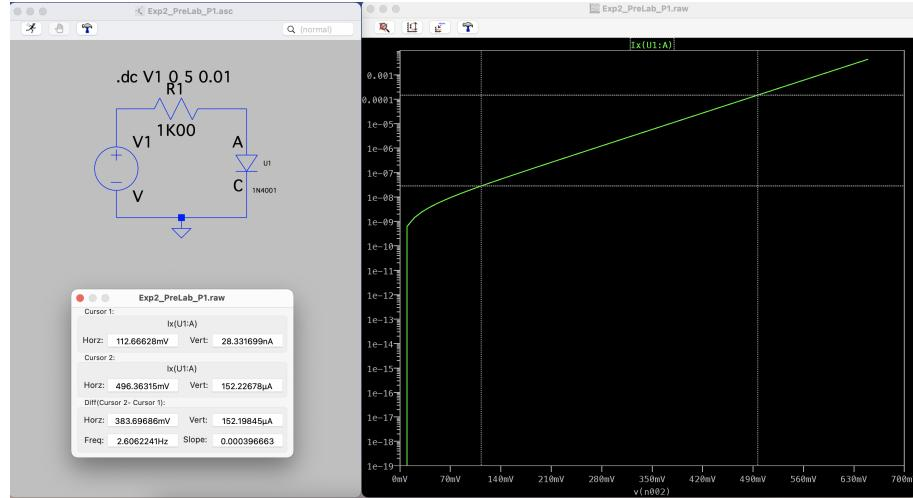

Figure 2: The current versus the voltage of the diode with a semi ln plot
2. Figure 2 shows the circuit built in LTSpice and the plot of the forward diode current versus the diode voltage using the semi ln plot.
From Figure 2, two points from the plot are known. Substituting them gives the following diode factor: